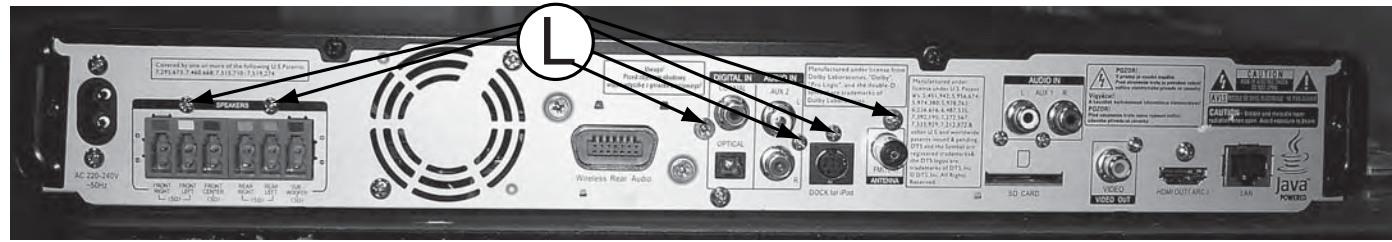

Figure 15
- 2) At the back panel, loosen 6 screws "L" as shown in figure 15.